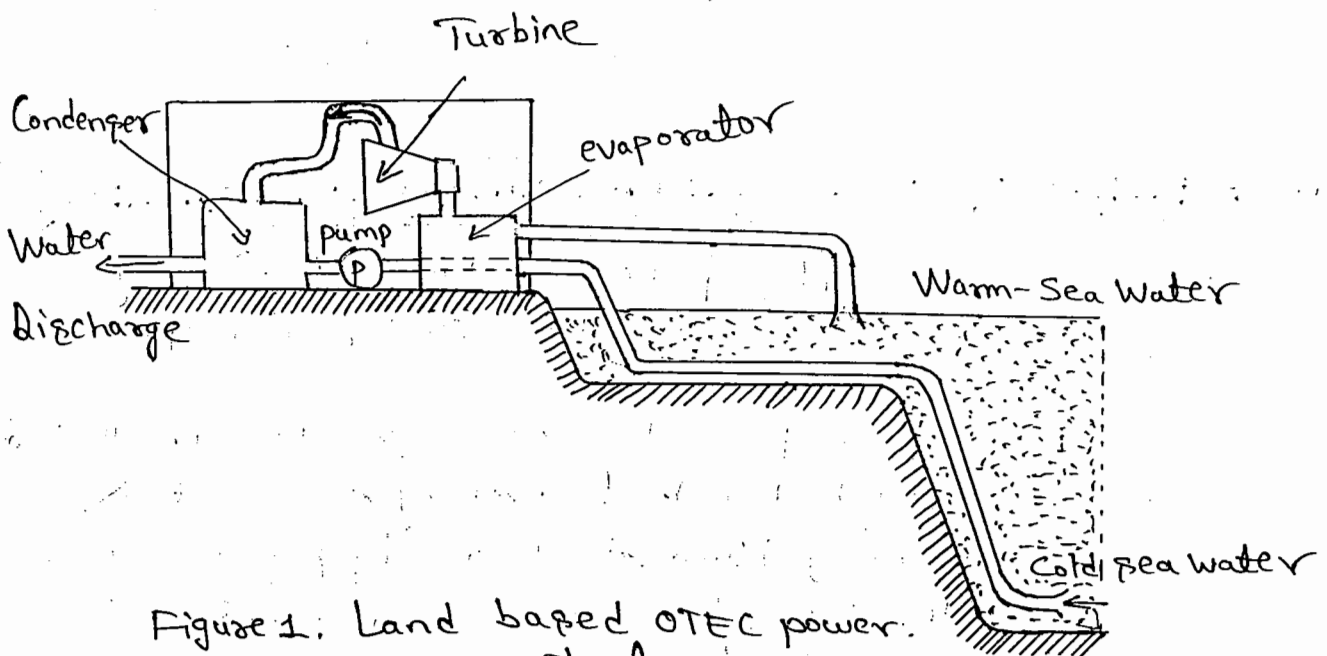

Figure 1. Land based OTEC power plant.
- * The Land based power plant will consist of a building shown in Figure 1.